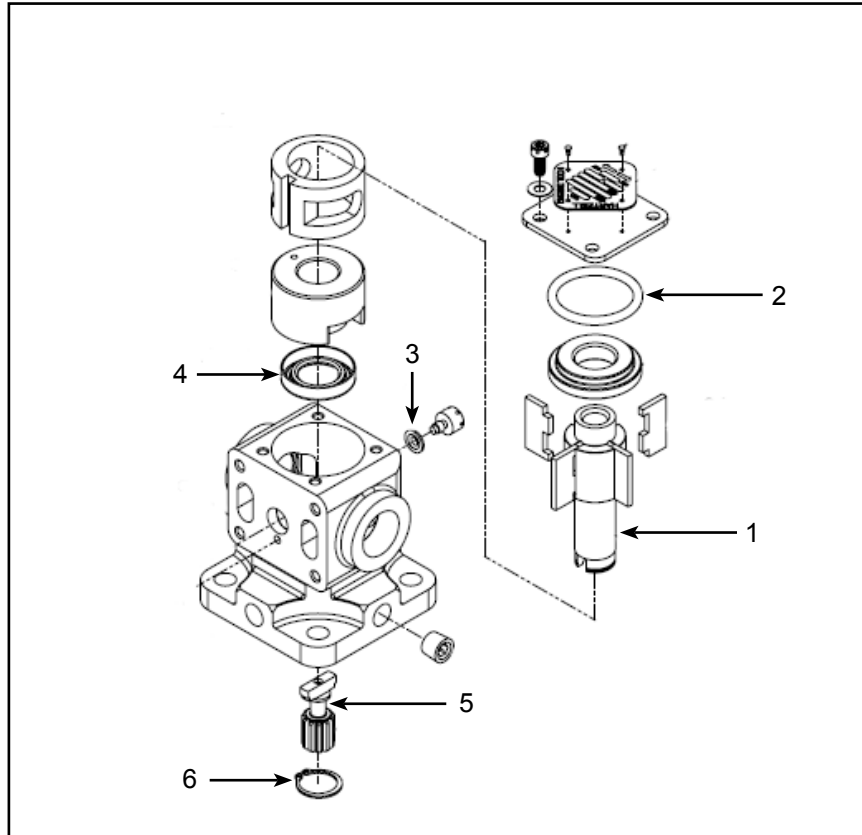

Figure 1 - Pump Housing
- A. Item numbers 5 and 6 of Figure 1 are required to comply with section 3.B. of this Service Bulletin, *Rotor Inspection*.
IPL - Figure 1 - Pump Housing
- (1) Prior to forwarding an affected fuel pump to an authorized repair facility, perform the following inspection of the fuel pump rotor.
- (b) Remove retaining ring (6, Figure 1) and drive coupling (5) from the fuel pump. Discard retaining ring (6) and drive coupling (5).